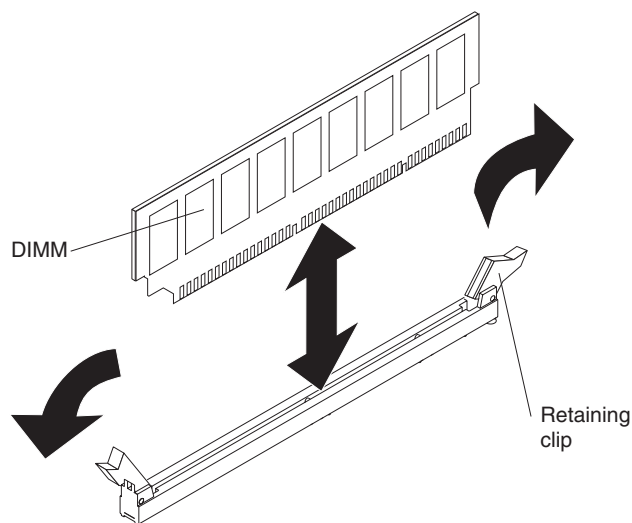

Figure 22. Installing a DIMM
4. Insert the DIMM into the connector (see Figure 22). Firmly press the DIMM straight down into the connector by applying pressure on both ends of the DIMM simultaneously. The retaining clips snap into the locked position when the DIMM is firmly seated in the connector. If there is a gap between the DIMM and the retaining clips, the DIMM has not been correctly installed. Open the retaining clips, remove the DIMM, and reinsert it.